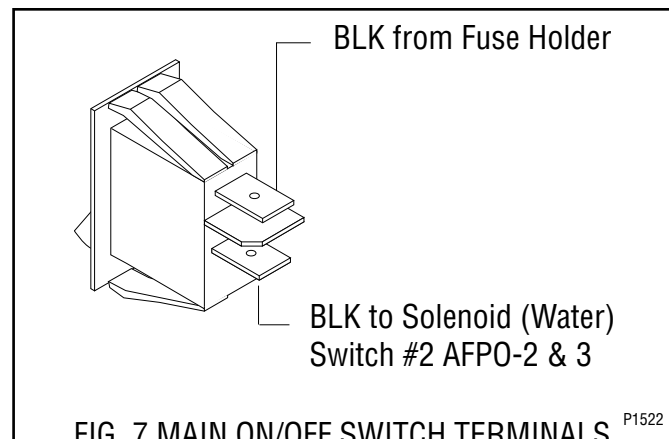

FIG. 7 MAIN ON/OFF SWITCH TERMINALS
4. Refer to Fig. 7 when reconnecting the wires.